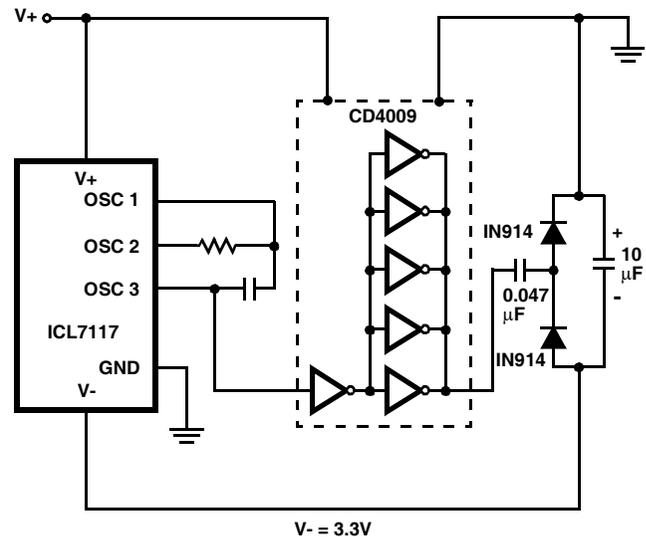

FIGURE 10. GENERATING NEGATIVE SUPPLY FROM +5V
3. The ICL7117 is designed to work from  $\pm$ 5V supplies. However, if a negative supply is not available, it can be generated from the clock output with 2 diodes, 2 capacitors, and an inexpensive IC. Figure 10 shows this application. See ICL7660 data sheet for an alternative.